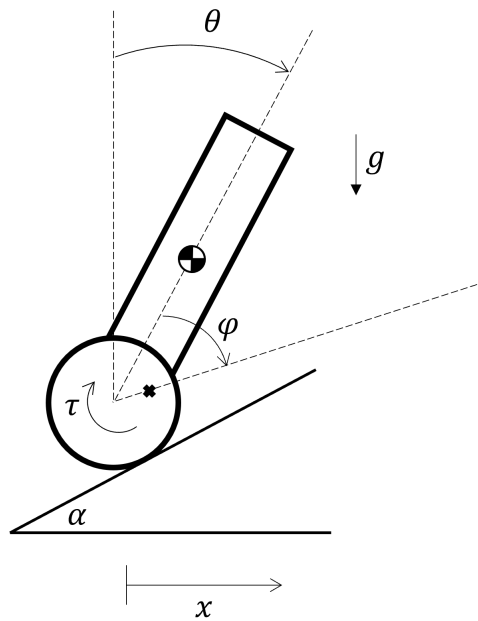

Figure 3: Schematic of a self-balancing robot on an inclined plane.
1. Derive the Euler-Lagrange model for the self-balancing robot on an inclined plane as depicted in Figure 3.